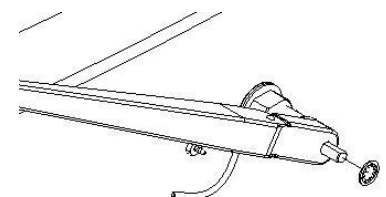

Figure 3
4. Remove the black lock washers (AME part #407-1023) from the arms. (Figure 3)